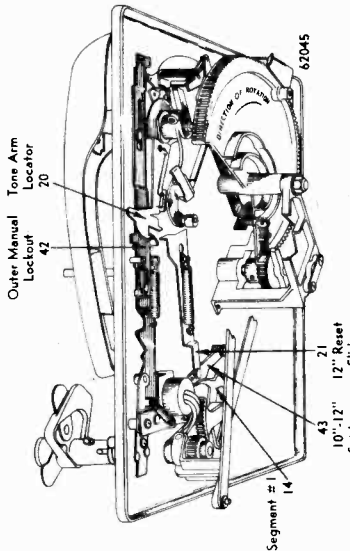

FIG. 19. CUTAWAY—BOTTOM VIEW
B. MANUAL LOCKOUT ASSEMBLY (42) engages and retains the tone arm locator (20) in its outermost position while the control slide is set in the **MANUAL** position. There are three actions involved:
1. When the tone arm is in the rest position, and the control slide is moved into **MANUAL**, the outer manual lockout (42) moves to hold the tone arm locator from moving inward.
2. The outer manual lockout (42) and the tone arm locator (20) must remain engaged while the control slide is moved into any other position, until automatically released by the drive gear cam.
C. 12" RESET SLIDE (21), 10" and 12" SET LEVER (43) and GEAR SEGMENT No. 1 (14) index the tone arm properly for a 10" or 12" record, depending upon the setting of the selector arms. This is accomplished by transmitting the motion of the selector knob through segment No. 1, and the 10" and 12" set lever to the 12" reset slide. The engagement of the 12" reset slide with the tone arm locator, determines the indexing of the tone arm. (See fig. 19)